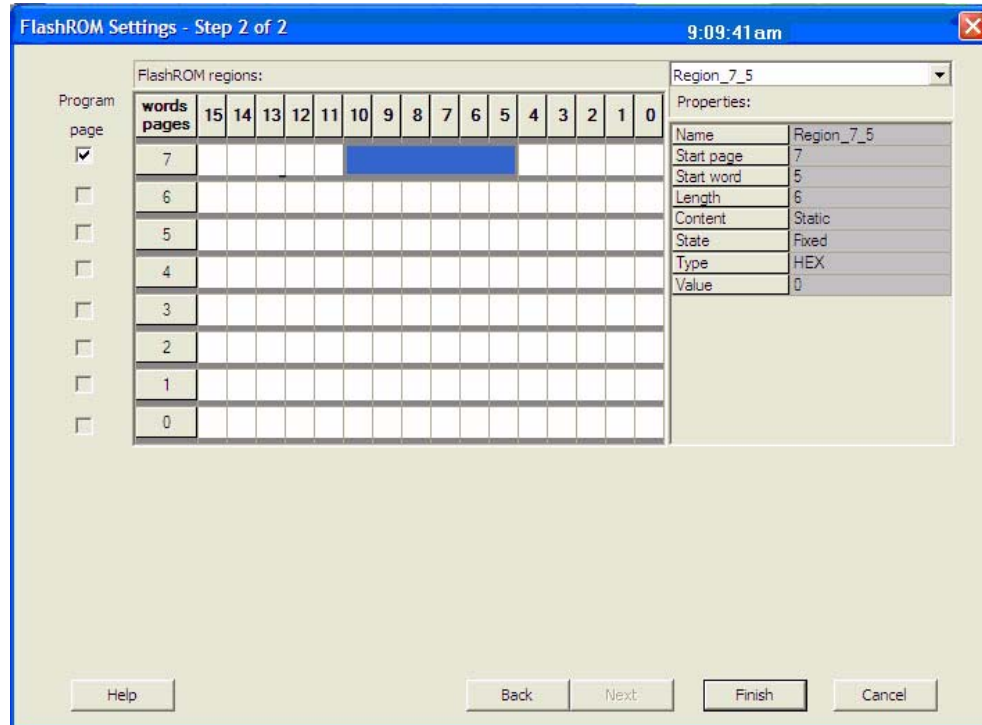

Figure 13-13 • FlashROM Configuration Settings for Low-Power Flash Devices
- Choose the desired settings for the FlashROM configurations to be programmed (Figure 13-13). Click **Finish** to generate the STAPL programming file for the design.